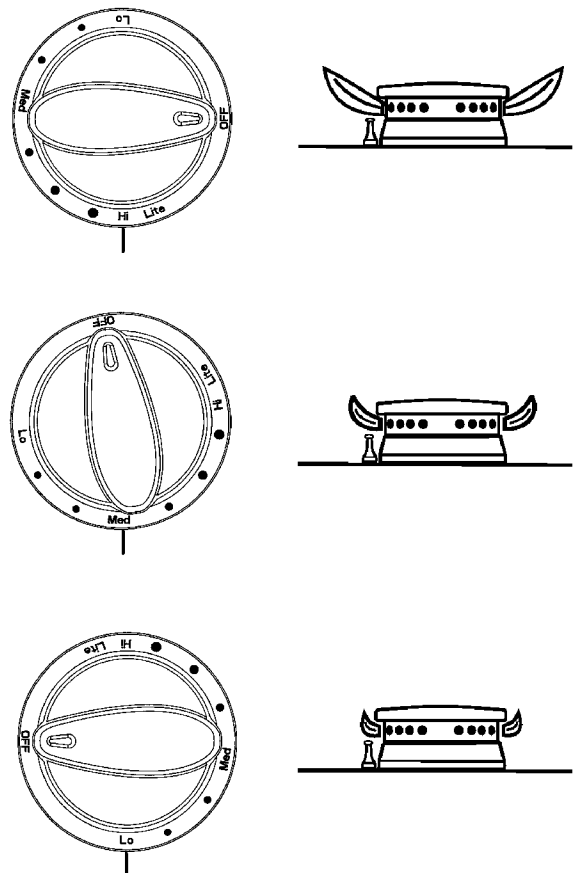

FIGURE 13
After Conversion Steps A, B and C have been completed, check the appearance of each burner flame at the Hi and Lo settings against figure 13. If the flames appear too large or too small, review each step to make sure it was completed correctly.
6. Starting from the LP position (see #5 on page 9, under C. LOW FLAME ADJUSTMENT), turn the screw counter clockwise until the flame stabilizes and matches the pictured "low" setting on figure 13. Proper adjustment will produce a stable, steady blue flame of minimum size. The final adjustment should be checked by turning the knob from high to low several times without extinguishing the flame.
After Steps A, B and C have been completed, check the appearance of each burner's flame at the Hi and Lo settings against figure 13. If the flames appear too large or too small, make sure all steps were completed correctly.